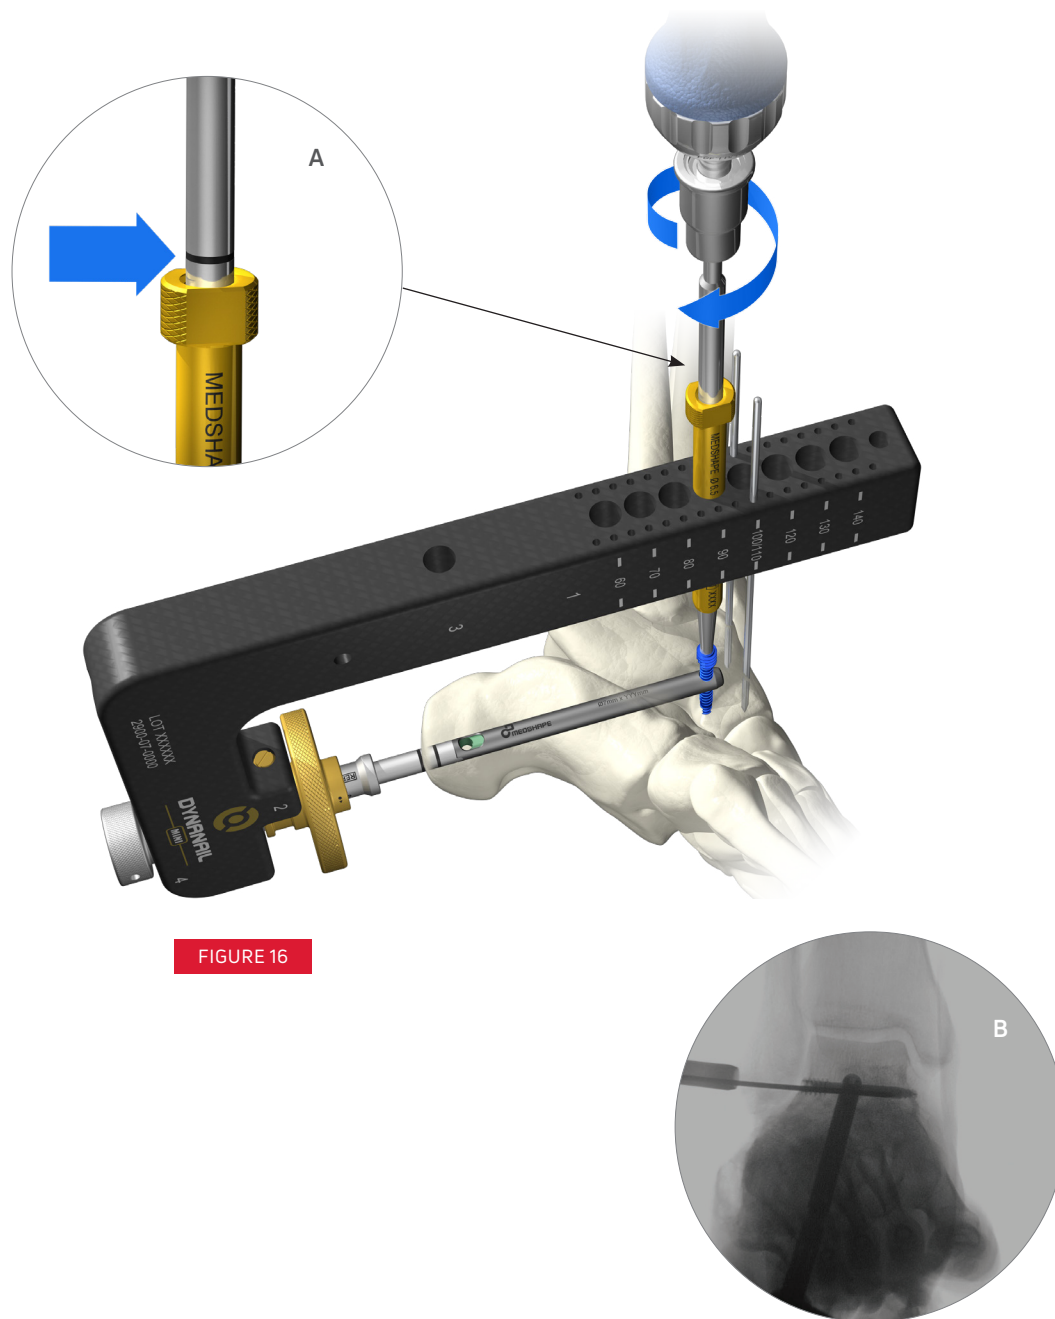

FIGURE 16
1. 3 mm Hex Driver (3)
2. Blue-Handle Ratchet Driver (4)
Attach the 3 mm Hex Driver to the Blue-Handle Ratchet Driver. Remove the 4 mm Drill and Drill Guide from the Guide Sleeve. Place the Transverse Headless Screw onto the 3 mm Hex Driver and insert into the Guide Sleeve (FIGURE 16). The Transverse Headless Screw does not provide any tactile feedback to indicate when it is fully inserted. When the lasermarking on the 3 mm Hex Driver approaches the back of the Guide Sleeve (A), use lateral fluoroscopy while advancing the final turns, ensuring the Screw tip does not extend beyond the medial cortex of the talus. Remove the Hex Driver and Guide Sleeve from the Targeting Frame.